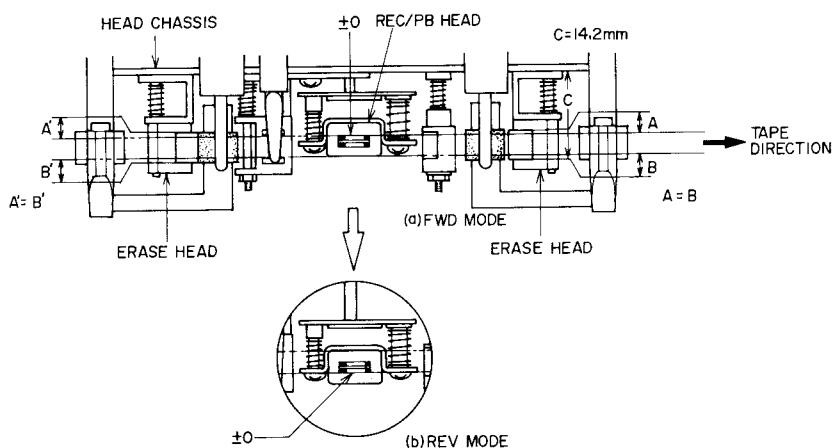

Fig. 11
Adjust by turning the adjustment nut until the height, taken from the surface of the Head Chassis to the lower tip of the Erase Head Core (Fig. 11 C) is 14.2 mm
- 2) The adjustment to Tape Guides (A) and (B) are carried out with the Erase Head at the standard height. Put into the FWD mode and adjust Tape Guide (A). Make the width of the sections (A and B in Fig. 11) protruding from both ends of the tape of the left side Erase Head the same. Next in the REV mode adjust Tape Guide (B) until A and B in Fig. 11 are the same. Finally, in either FWD or REV modes. Check that the tape is running smoothly without catching on the tape guides.